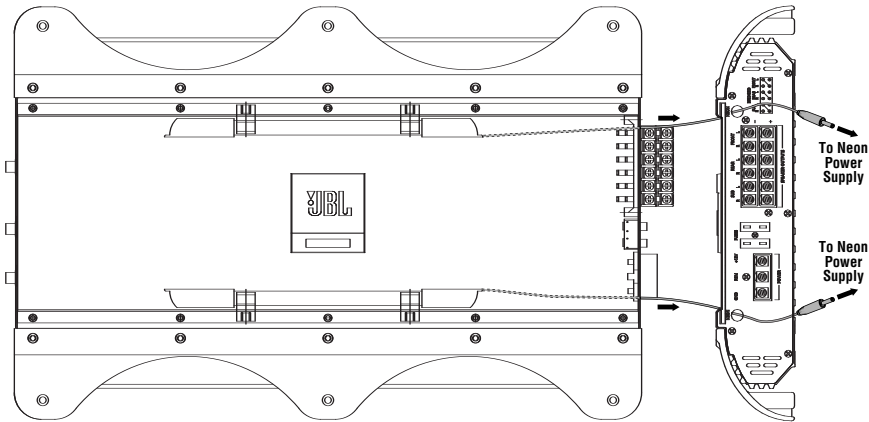

Figure 13. Installing neon tubes in a JBL GTO amplifier.
4. Locate the enclosed hardware bag and remove the four clips. Each clip has a square end and a larger round end. Using a round end, press two clips onto each neon tube (e.g., Street Glow AN9 or equivalent), as shown in Figure 13.
6. Route each neon tube's power cable through its respective NEON hole on the end panel (see Figure 13).